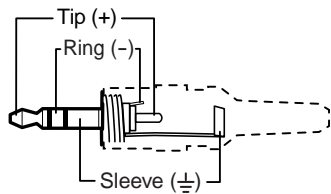

Figure 2-14 — Audio input connector plug
- ② **Computer video input (HSA 200 models only)** — Plug the VGA-UXGA output from a computer into this 15-pin HD female connector.
- ③ **Audio input connector (HSA 200 models only)** — Plug a 3.5 mm stereo plug into this jack for unbalanced audio input. Figure 2-14 shows how to wire the male plug.